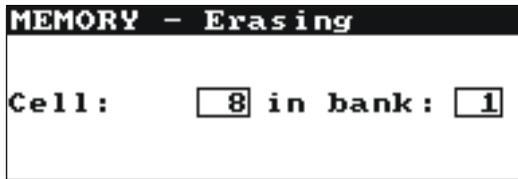

Fig.25. Deleting a memory cell: **1** – bank No, **8** – cell No, **1** – bank with at least one cell used, **8** – a cell in use
- Using keys  $\blacktriangle$  and  $\blacktriangledown$  choose the bank number and using keys  $\blacktriangleleft$  and  $\blacktriangleright$  the cell number you want to delete (Fig.25)